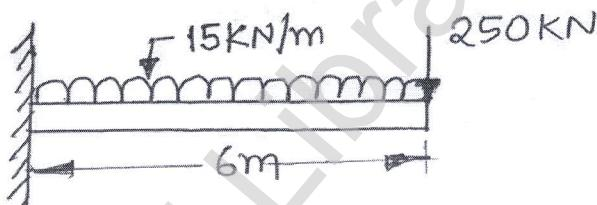

Fig.Q5(b)
b. For the beam and loading as shown in Fig.Q5(b), determine deflection, slope and support reaction. Take E = 110 GPa, I = $5 \times 10^{-4} \text{ m}^4$. (08 Marks)